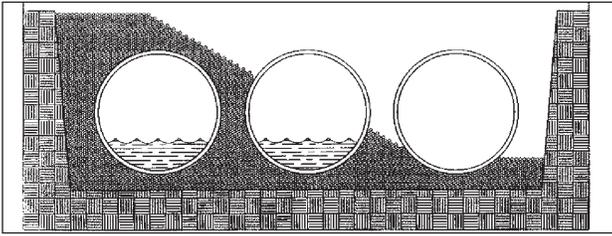

FIGURE 14-2
14.3.1. If the preferred method outlined above is not practical, an alternate method (FIGURE 14-2) is the following: